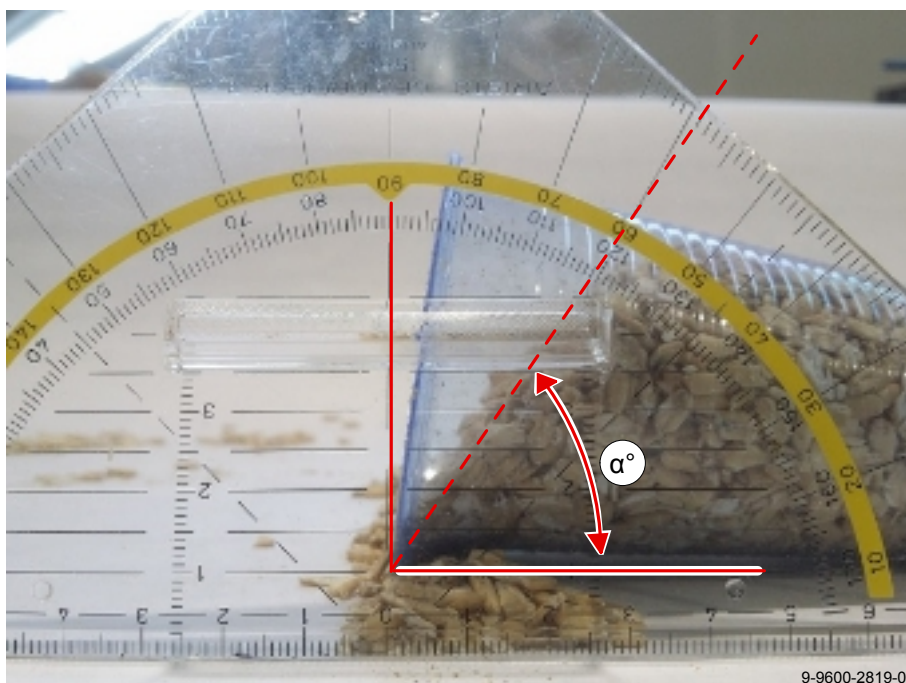

Figure 14. Determine the feed angle
7. Determine the angle (α°) of the feed in the cup (see figure 14 on page 3-6).